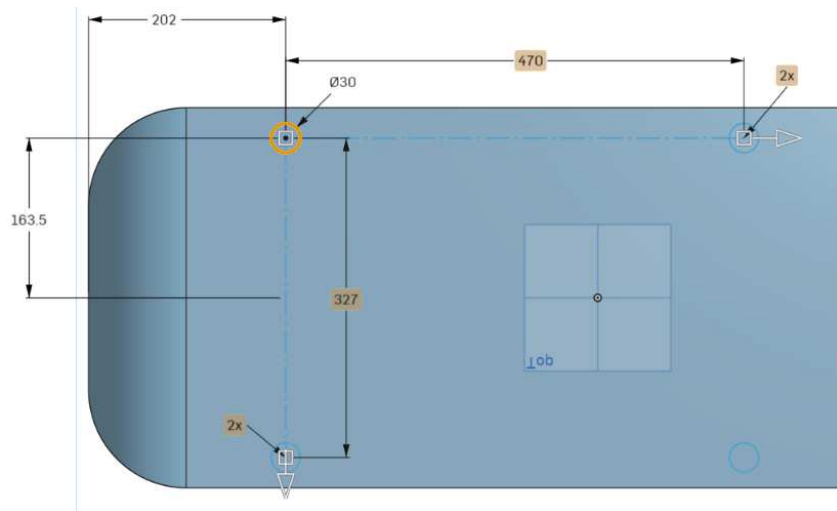
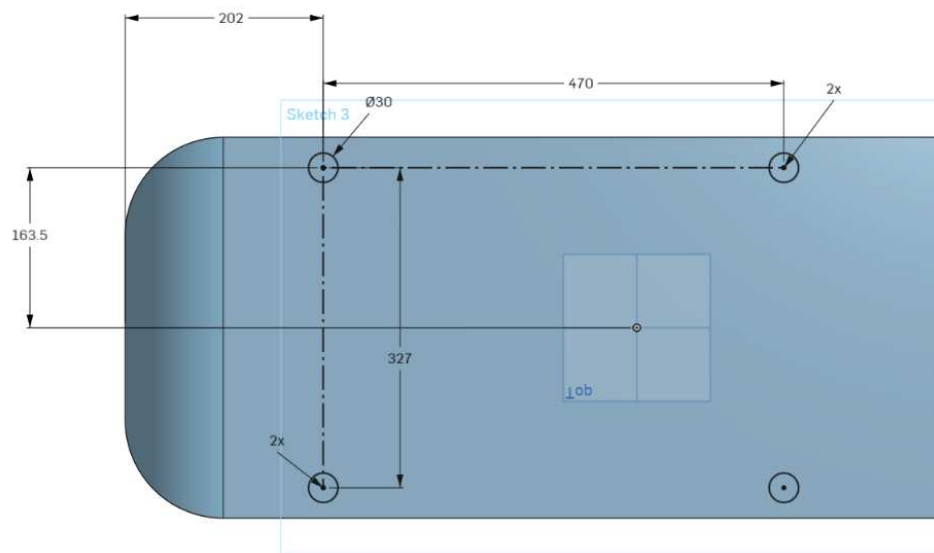

Figure 2.19: Using the "Linear Pattern" tool.
Figure 2.20: Resulting linear sketch pattern.
- 17) Select the “Linear Pattern” tool () and click on the circle. Enter “2” to the horizontal and vertical copy multiples with 470 mm and 327 mm (163.5 x 2) respectively to distances (figure 2.19) and click the left mouse button to confirm. The generated sketch should resemble the figure 2.20 below.